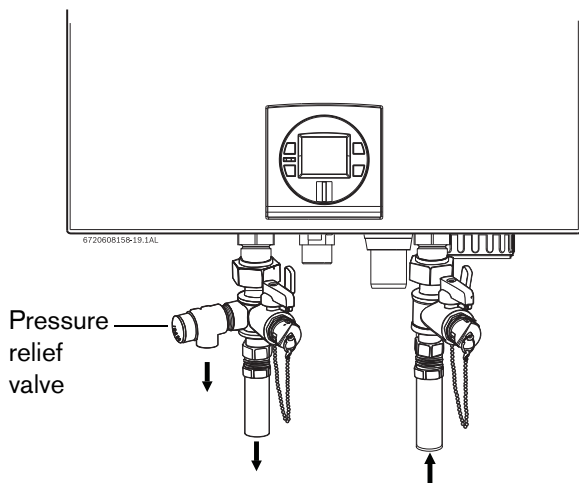

Fig. 34 Plumbing Connections (with isolation valves) and Pressure Relief Valve
- ▶ **Full port shutoff or isolation valves must be installed on both the cold water supply and hot water outlet lines to facilitate servicing the heater (see Fig. 34).**
The location of the PRV must be readily accessible for servicing or replacement, and be mounted as close to the water heater as possible. See Fig. 34. To install the PRV, a suitable fitting connected to an extension on a "T" fitting can be sweated to the hot water line.